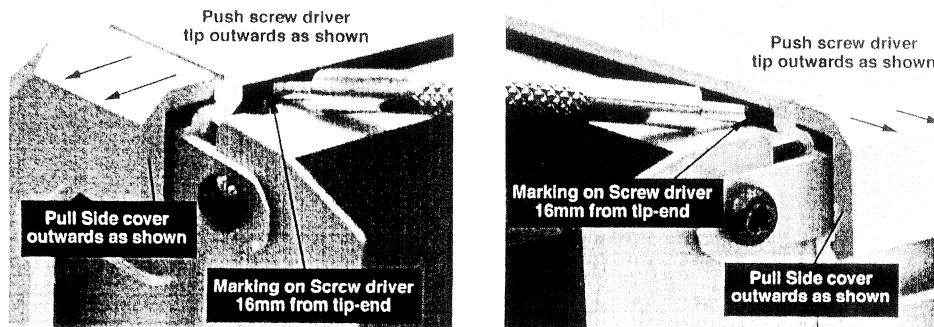

Figure 2
- 2) Insert the screw driver into slot (as shown in figure 2) and push the tip outwards to release the side cover catch. The side cover can be pull outwards as soon as the top catch is released.